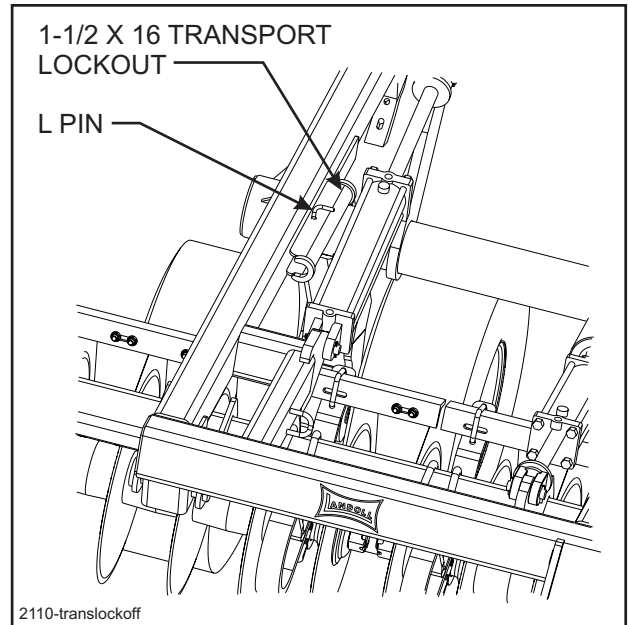

Figure 4-4 Stored Transport Locks
- 4-7.1** Raise the unit to take the weight off of the transport locks. Remove the transport locks from the lift cylinders. Store the transport locks on the retainers above the main lift (See Figure 4-4).